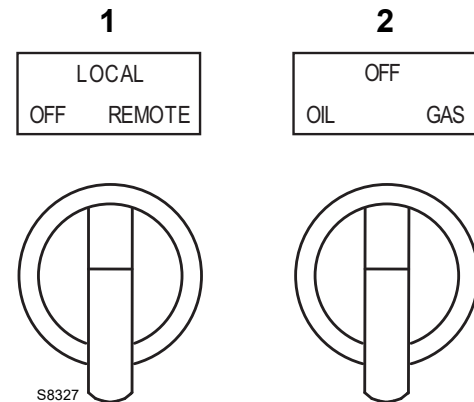

Fig. 45
Set switch 1)(Fig. 45) to "LOCAL".
Set switch 2)(Fig. 45) to "GAS".
- 1 using switch 2)(Fig. 45);
By setting switch 1)(Fig. 45), to “remote” you activate the remote fuel selection facility.